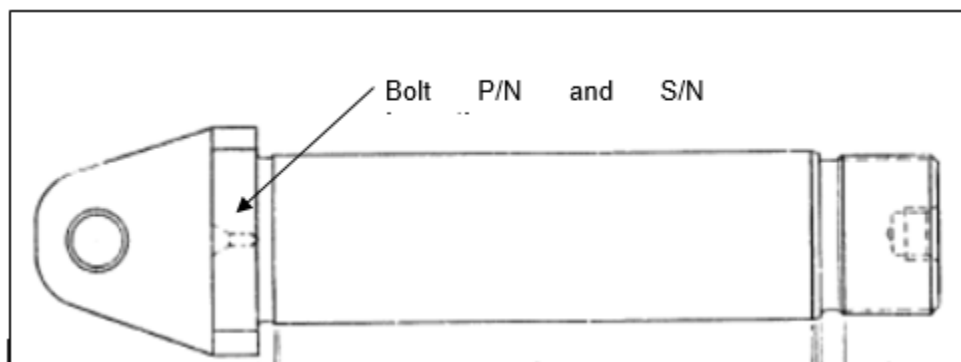

FIGURE 2 - ID Location
3. Inspect all four spindle to yoke bolts P/N: 214-010-262-103 for physical verification of serial numbers listed in Table 1. (Refer to Figure 2)